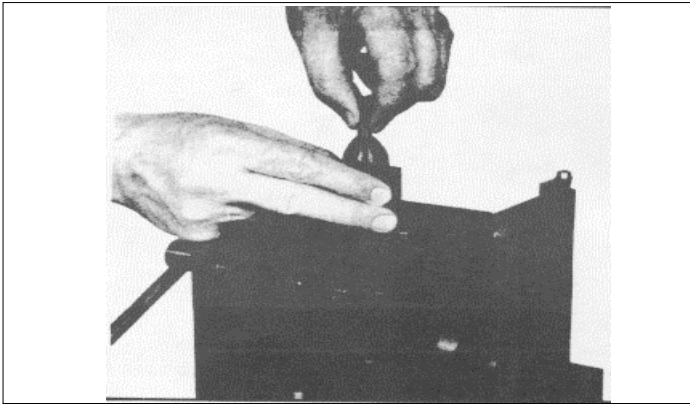

Fig. 39
- (7) Lubricate the threads in the injector nut and carefully thread the nut on the injector body by hand. Rotate the spray tip between your thumb and first finger while threading the nut on the injector body (Fig. 39). Tighten the nut as tight as possible by hand. At this point, there should be sufficient force on the spray tip to make it impossible to turn with your fingers.